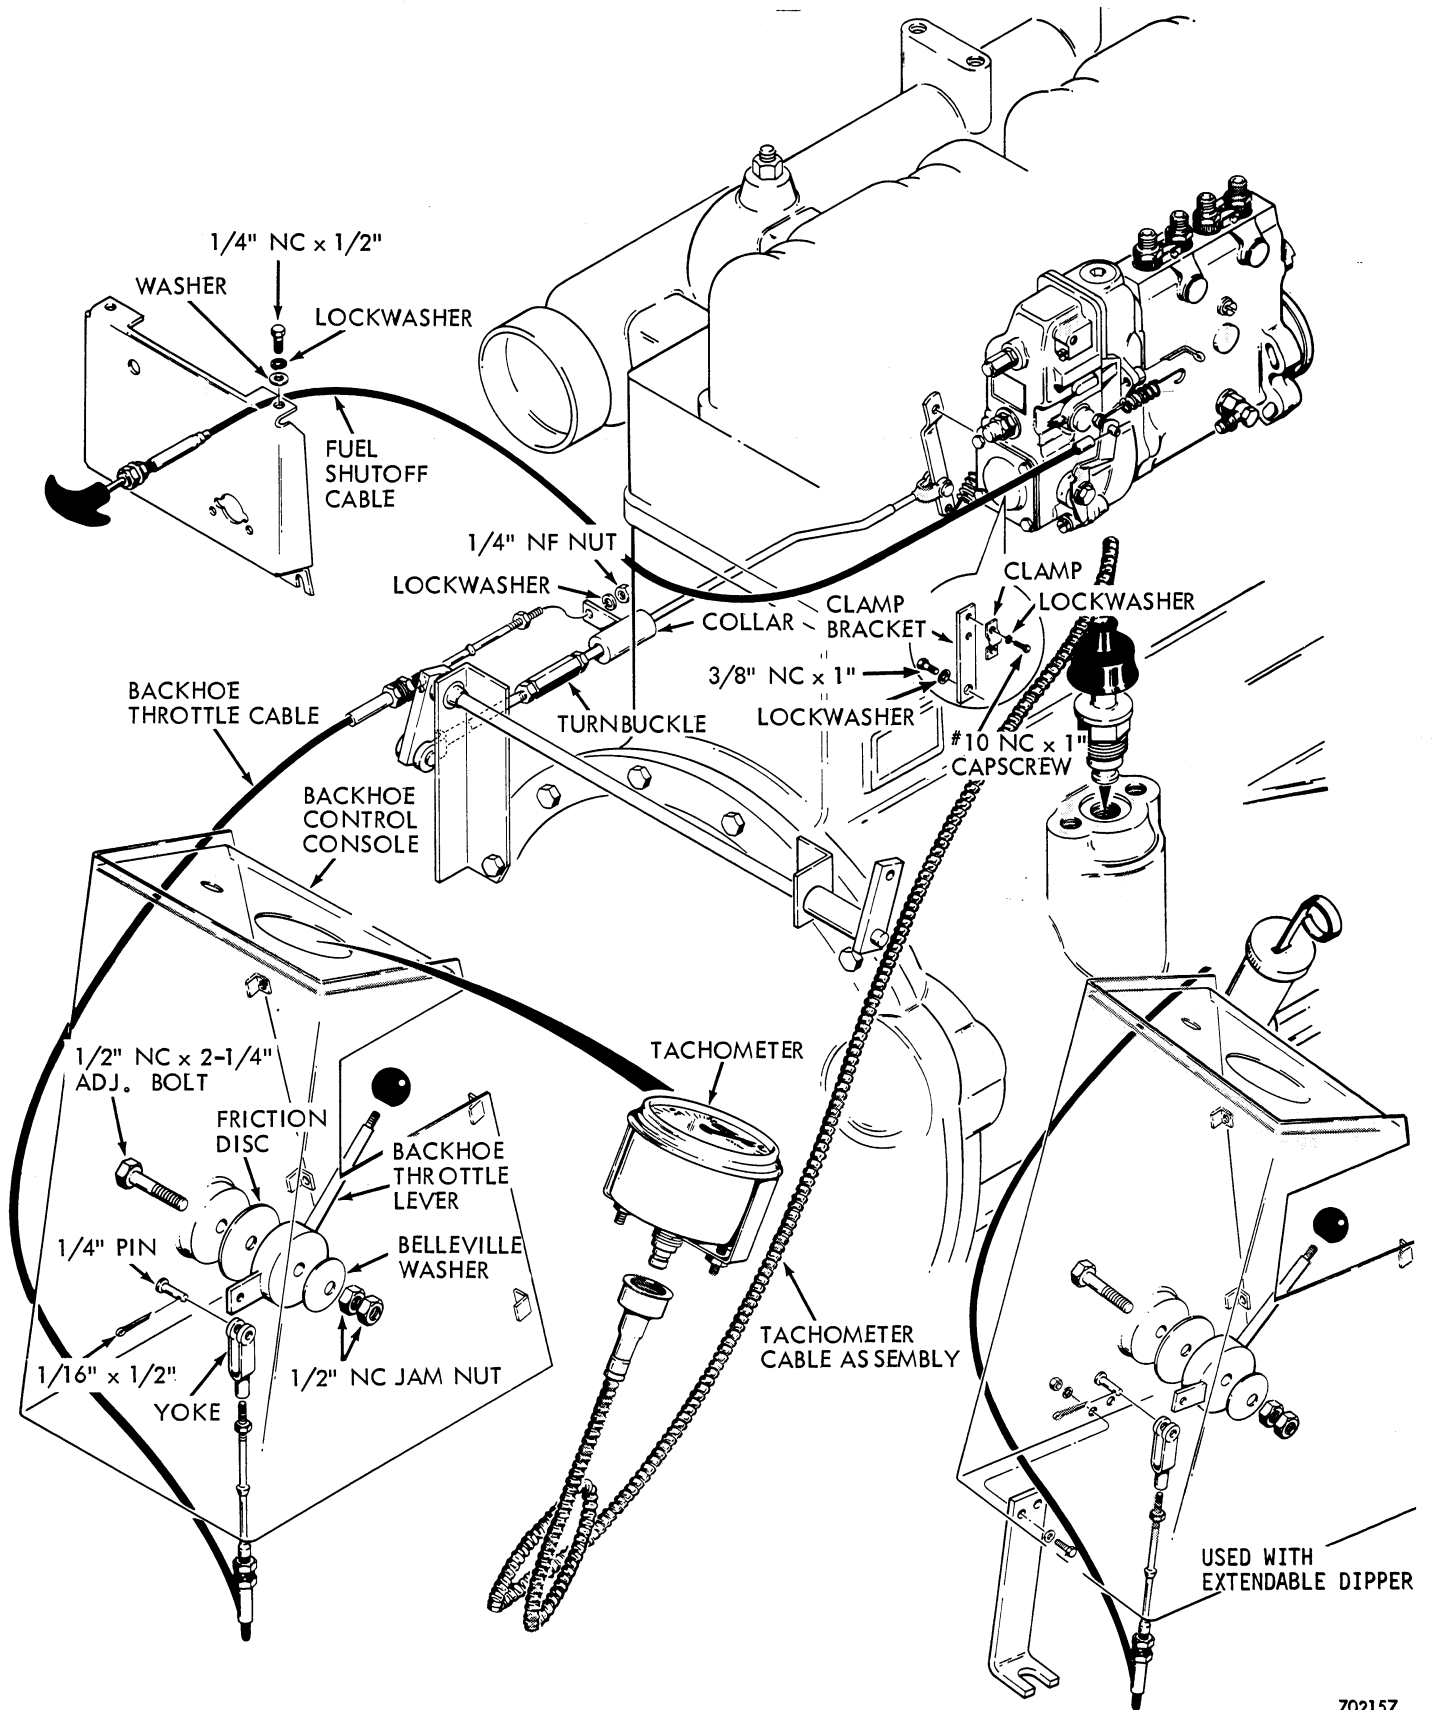

Figure 3 - Exploded View of Backhoe Throttle Linkage
- d. Position backhoe throttle lever for low idle speed. Adjust the cable stop, Figure 3, to within 1/4" of the turn-buckle on the throttle rod.
- e. Adjust the "feel" of the backhoe throttle lever by turning the adjusting bolt on the control console, Figure 3.